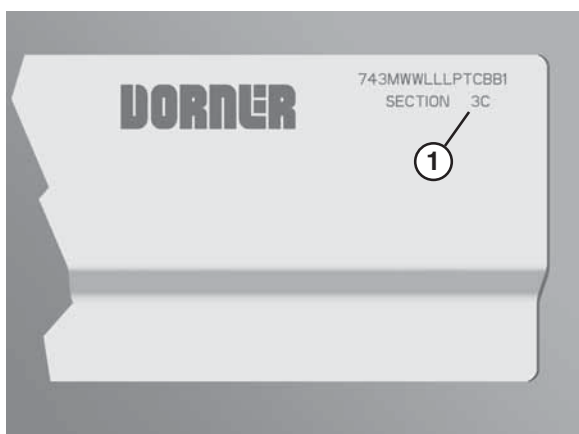

Figure 40
1. Locate the section number sequence etched on each section of frame (**Figure 40, item 1**)